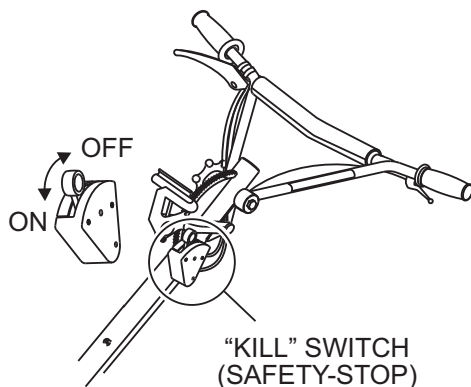

Figure 25. Centrifugal "Kill" Switch
3. Place the **centrifugal "kill" switch** (Figure 25) in the "ON" position. For models that use this feature.